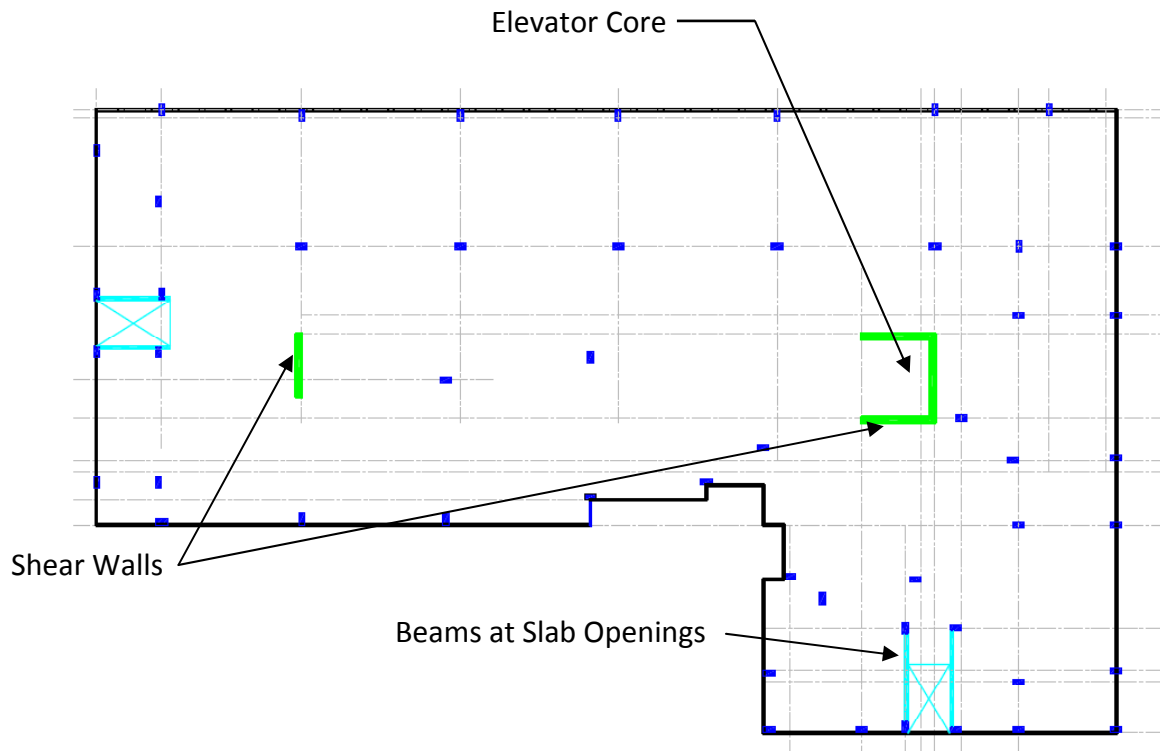

FIG. 2 : Basic Framing Plan
Building two is a joint less structure with a central core. A flat slab system is used, that is there are no beams other than at slab openings (i.e. stair wells). The slab is a two way post tension system. The slabs are supported by a grid of (52) cast in place concrete columns. (4) Concrete shear walls are used for lateral stability, three of which surround the elevator shaft (i.e. the central core). Cold form metal studs are used for most wall construction with the exception of stairwells, mechanical rooms and storage areas which are masonry construction.(See FIG.2)